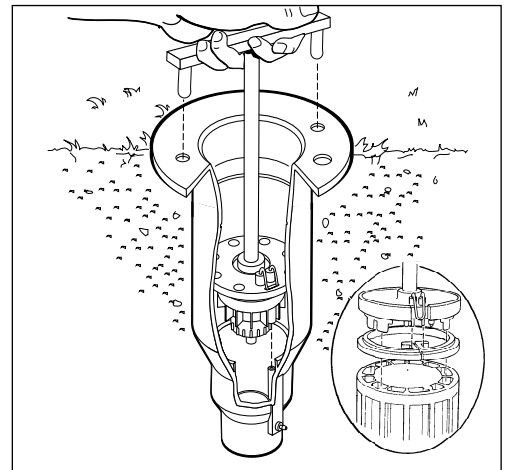

Figure 5
3. To reinstall valve assembly with snap ring and to prevent damage to the communication tube in sprinkler body, use valve insertion tool (P/N 995-76). Valve insertion tool will automatically line up valve assembly with sprinkler body communication tube and correctly seat the snap ring. (See **Figure 5**.)
NOTE: It is possible to install the snap ring backwards (upside down). See inset in **Figure 5** to insure that snap ring is placed on the insertion tool in the correct manner.